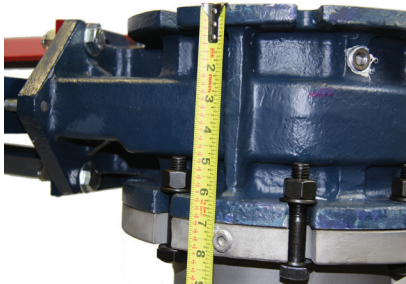

Figure C-7
C.14) Measure the distance from the **CENTER** of one of the completion pin caps to the face of the top flange of the temporary gate valve. **RECORD THIS MEASUREMENT** (see Figure C-7).